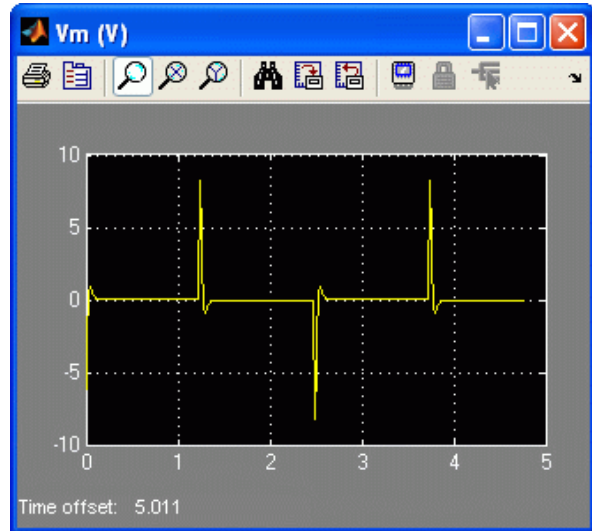

Figure 10: PV control input voltage.
5. Open the load shaft position scope, *theta\_l (rad)*, and the motor input voltage scope, *Vm (V)*.
7. Select QUARC | Start to begin running the controller. The scopes should be displaying responses similar to figures Figure 9 and Figure 10. Note that in the *theta\_l (rad)* scope, the yellow trace is the setpoint position while the purple trace is the measured position.